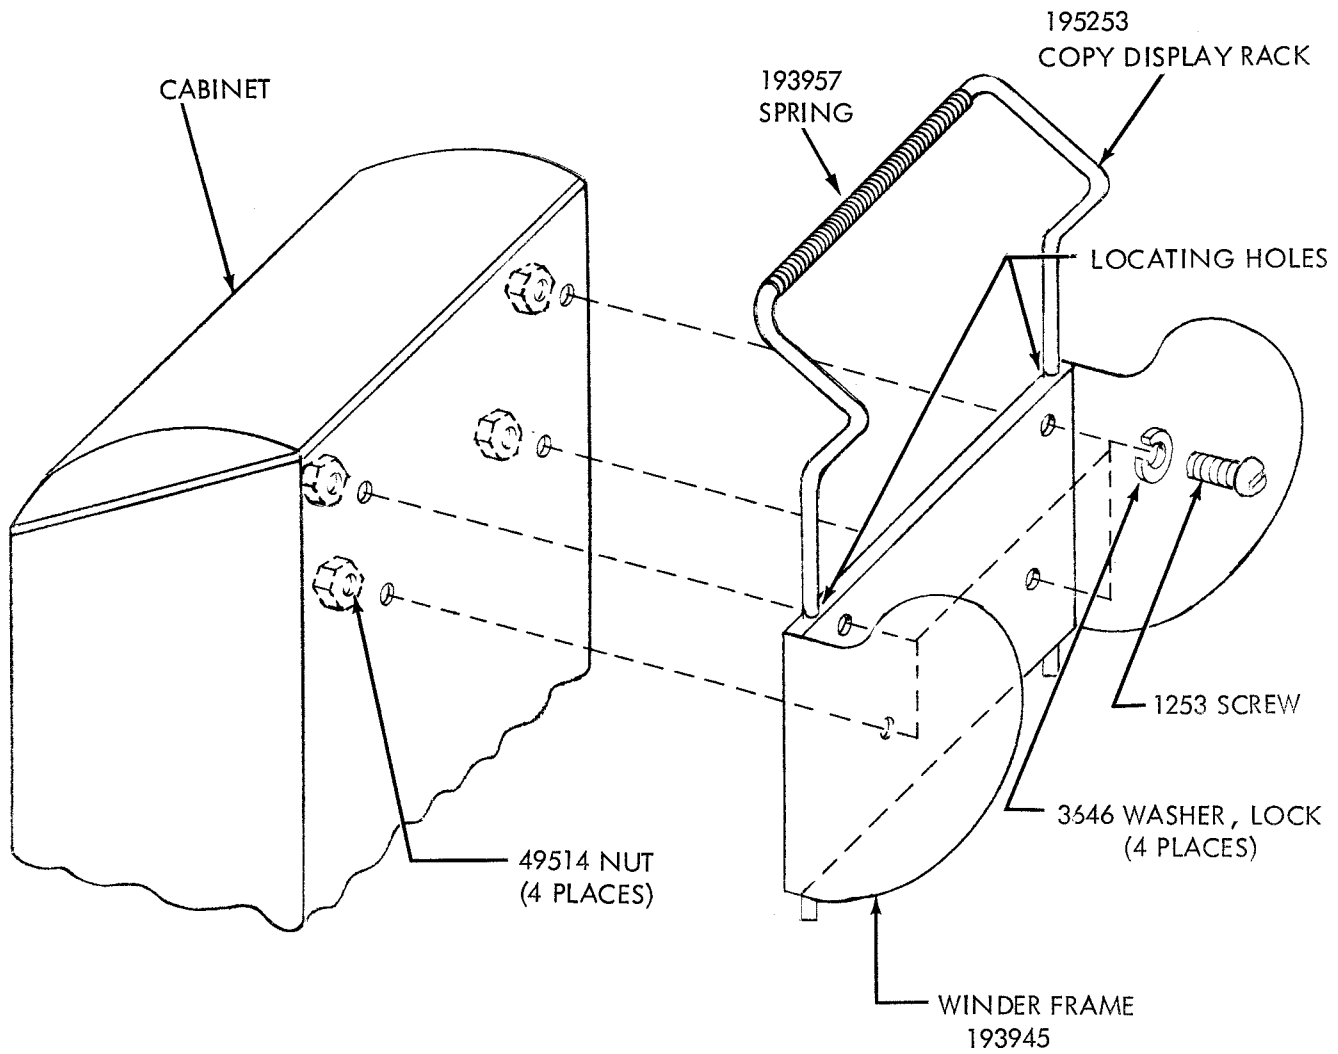

FIGURE 1. INSTALLING LPW300** PAPER WINDER ON A MODEL 28 CONSOLE CABINET (LAC OR LAAC)
2. INSTALLATION (Figures 1, 2 and 3)
a. Installing LPW300** Paper Winder on Model 28 Console Cabinet (Figure 1).
(1) Remove 152797** Plate w/Screws and 151532** Cover w/Plate from rear of cabinet by removing two 6345 Nuts, 2191 Lock Washers and 7002 Washers. Discard the parts and mounting hardware.
(2) Mount the paper winder at the rear of the cabinet, using two holes made available in preceding Paragraph (1), two lower holes present in the cabinet, four 1253 Screws, 3646 Lock Washers and 49514 Nuts. See Figure 1.
3. MISCELLANEOUS INFORMATION AND INSTRUCTIONS (Figures 1, 4 and 5)
(1) For Model 28 Console Cabinet - The three 151626 Terminals may be used when power is to be obtained from the "C" terminal board of the cabinet.
(2) For Model 32 or 33 Console Cabinet - The three 151626 Terminals may be used when power is to be obtained from the set at terminals 1 and 2 of the "TS" terminal board and terminal 4 of the motor control relay.
(3) For Model 34 or 35 Console Cabinet - Two of the 151626 Terminals and a 192007 Terminal may be used when power is to be obtained from terminals 1 and 2 of the "K" terminal board of the call control unit and terminal AA5 of the electrical service unit.
- c. Insert appropriate copy display rack into its locating holes on the paper winder frame. See Figure 1.